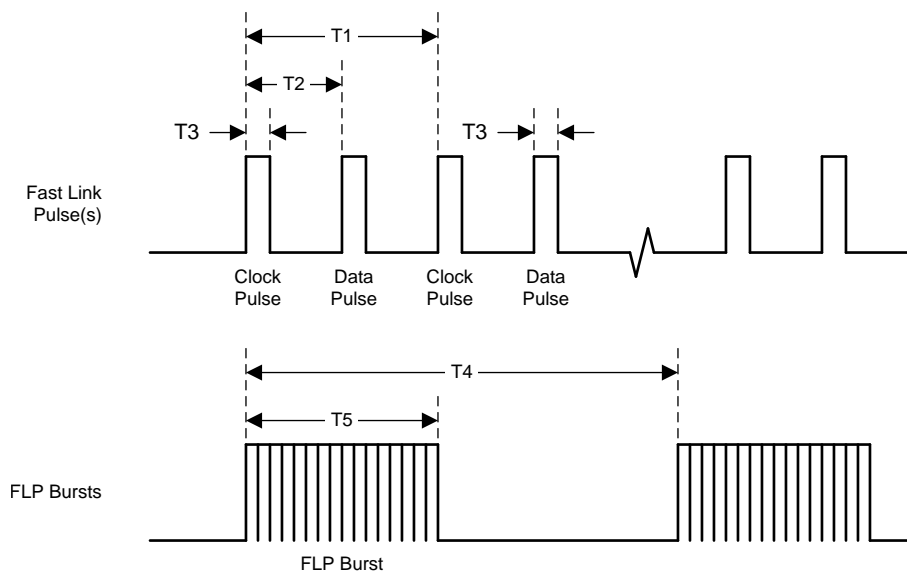

Figure 13. Fast Link Pulse Timing
(1) Ensured by production test, characterization or design.
(2) See Figure 13.